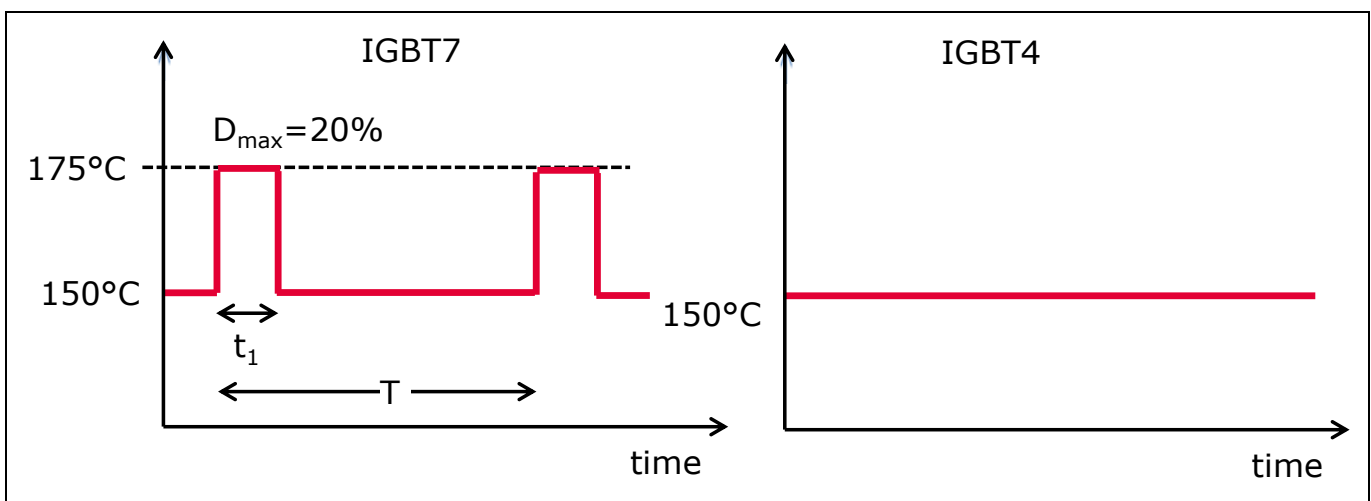
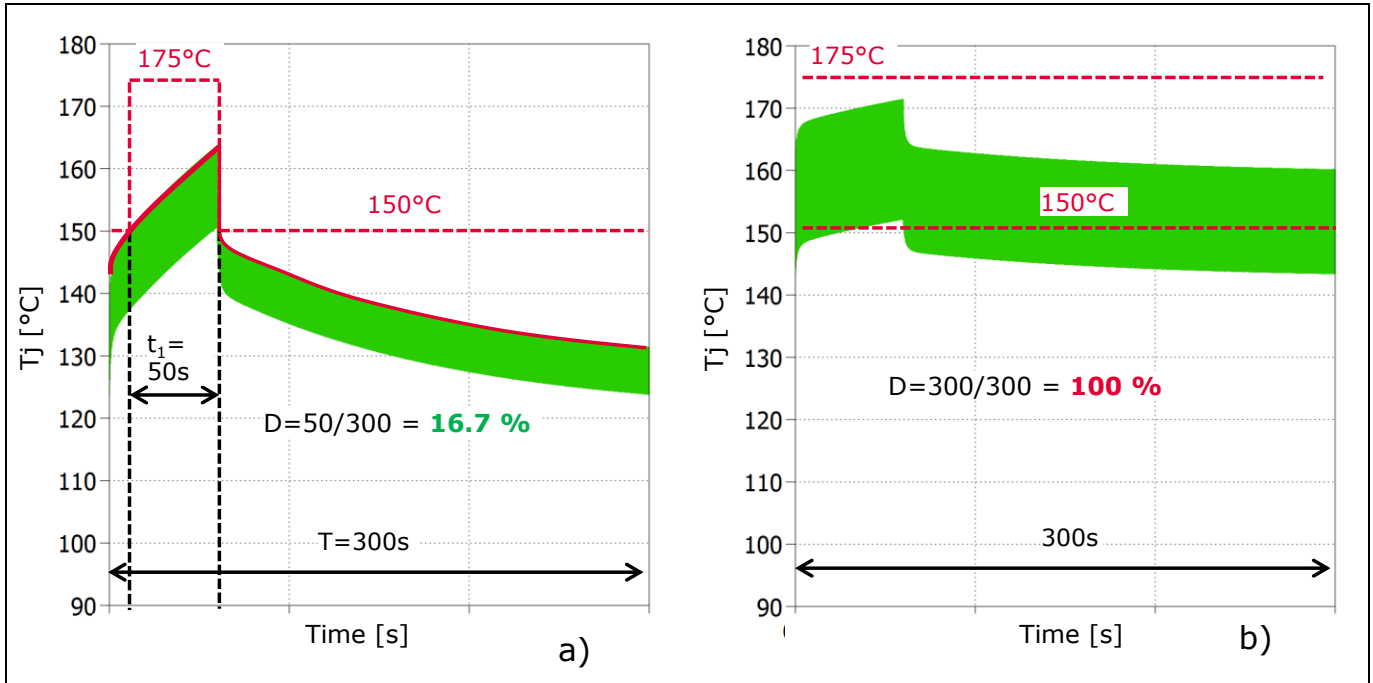

Figure 8. Maximum operation junction temperature definition for IGBT7 and IGBT4
Figure 9. Examples illustrating when the 175°C junction temperature operation is a) allowed and b) not allowed
Figure 8 shows the definition of the allowed operation junction temperature under switching conditions for IGBT7. For normal operation, the maximum junction temperature is 150°C . During overload conditions, a maximum junction temperature above $T_{vjop}=150^{\circ}\text{C}$ and up to $T_{vjop}=175^{\circ}\text{C}$ is allowed for a maximum duration of $t_1=60$ seconds. The overload duration where the T_{vjop} is above 150°C must be within 20% of the load cycle time (T), e.g. $t_1=60\text{s}$ every $T=300\text{s}$. Using this increased junction temperature capability, compared to a maximum $T_{vjop}=150^{\circ}\text{C}$, can enable higher power density, but also can result in higher heatsink temperatures.
The maximum temperature definition shown in Figure 8 should be considered as the maximum T_{vjop} limitation including the temperature ripple due to the fundamental output frequency. Figure 9 provides two examples of junction temperature profiles. In Figure 9a, T_{vjop} exceeds 150°C for $t_1=50\text{s}$. It is below 150°C for the rest of the $T=300\text{s}$ cycle. Therefore, the duty cycle is 16.7%. This condition would be allowed from a maximum operating junction temperature point of view. Another example is shown in Figure 9b. In this case the temperature of 150°C exceeds the maximum curve of the junction temperature for the whole period of the load profile. Therefore, this operation would not be allowed.